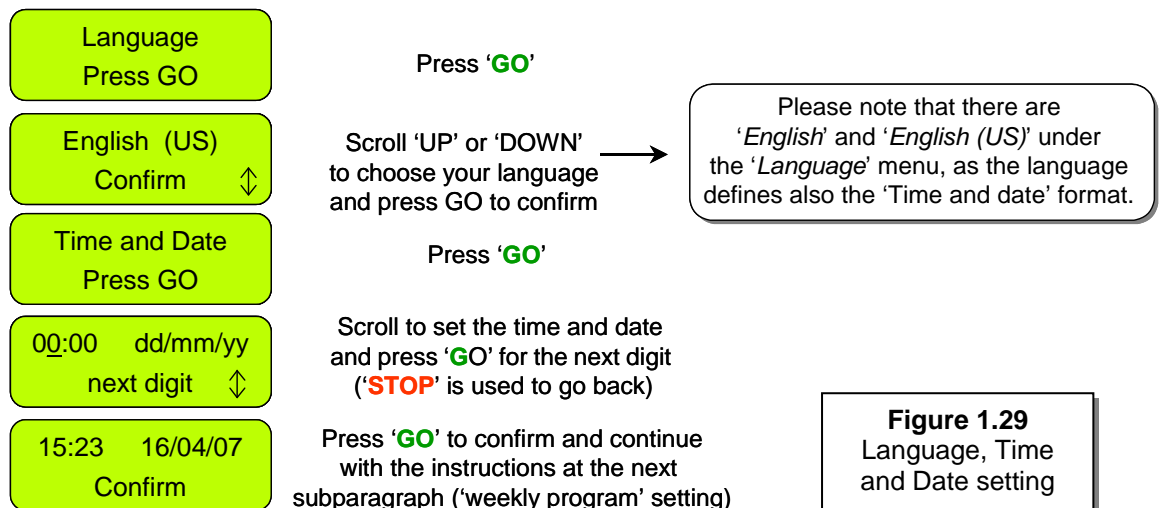

Figure 1.29
- 'Language' is the first setting you are asked to set, as Robomow wakes up. Follow the instructions below, as shown in figure 1.29.